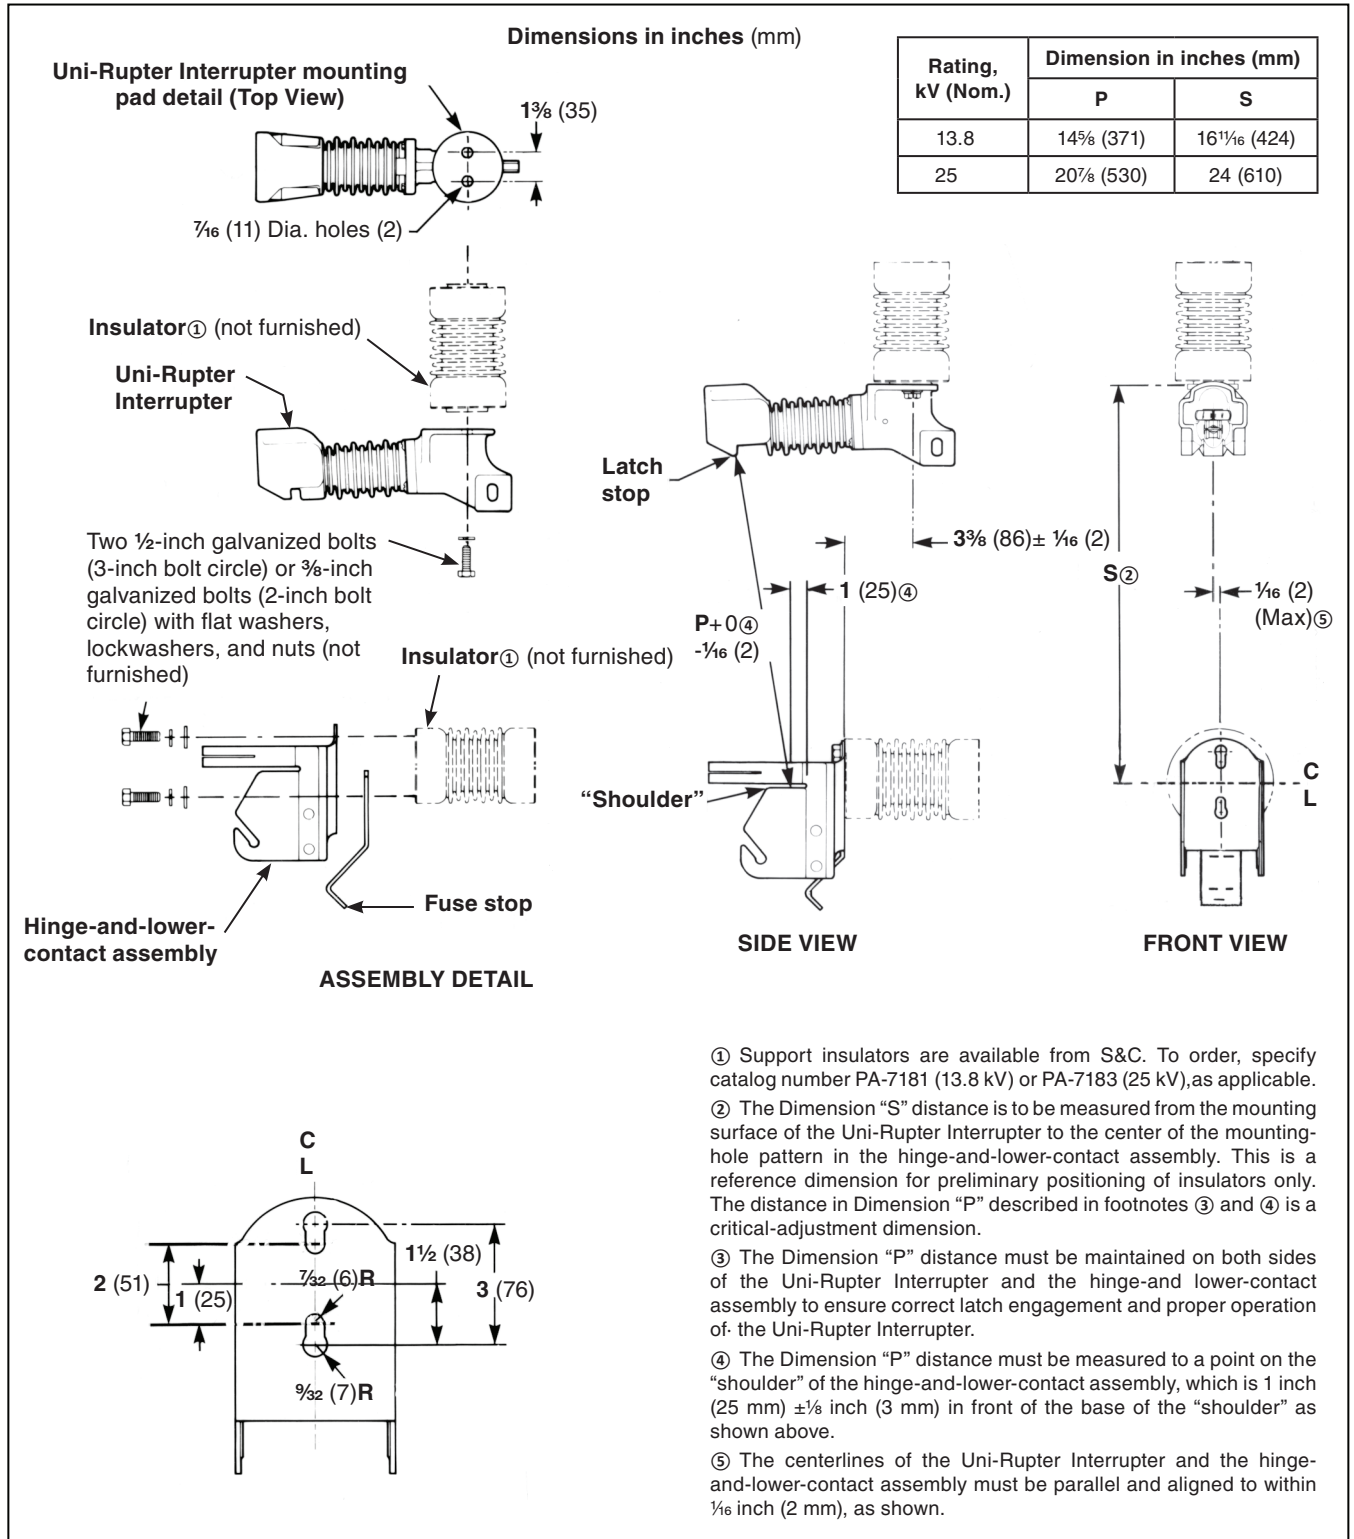
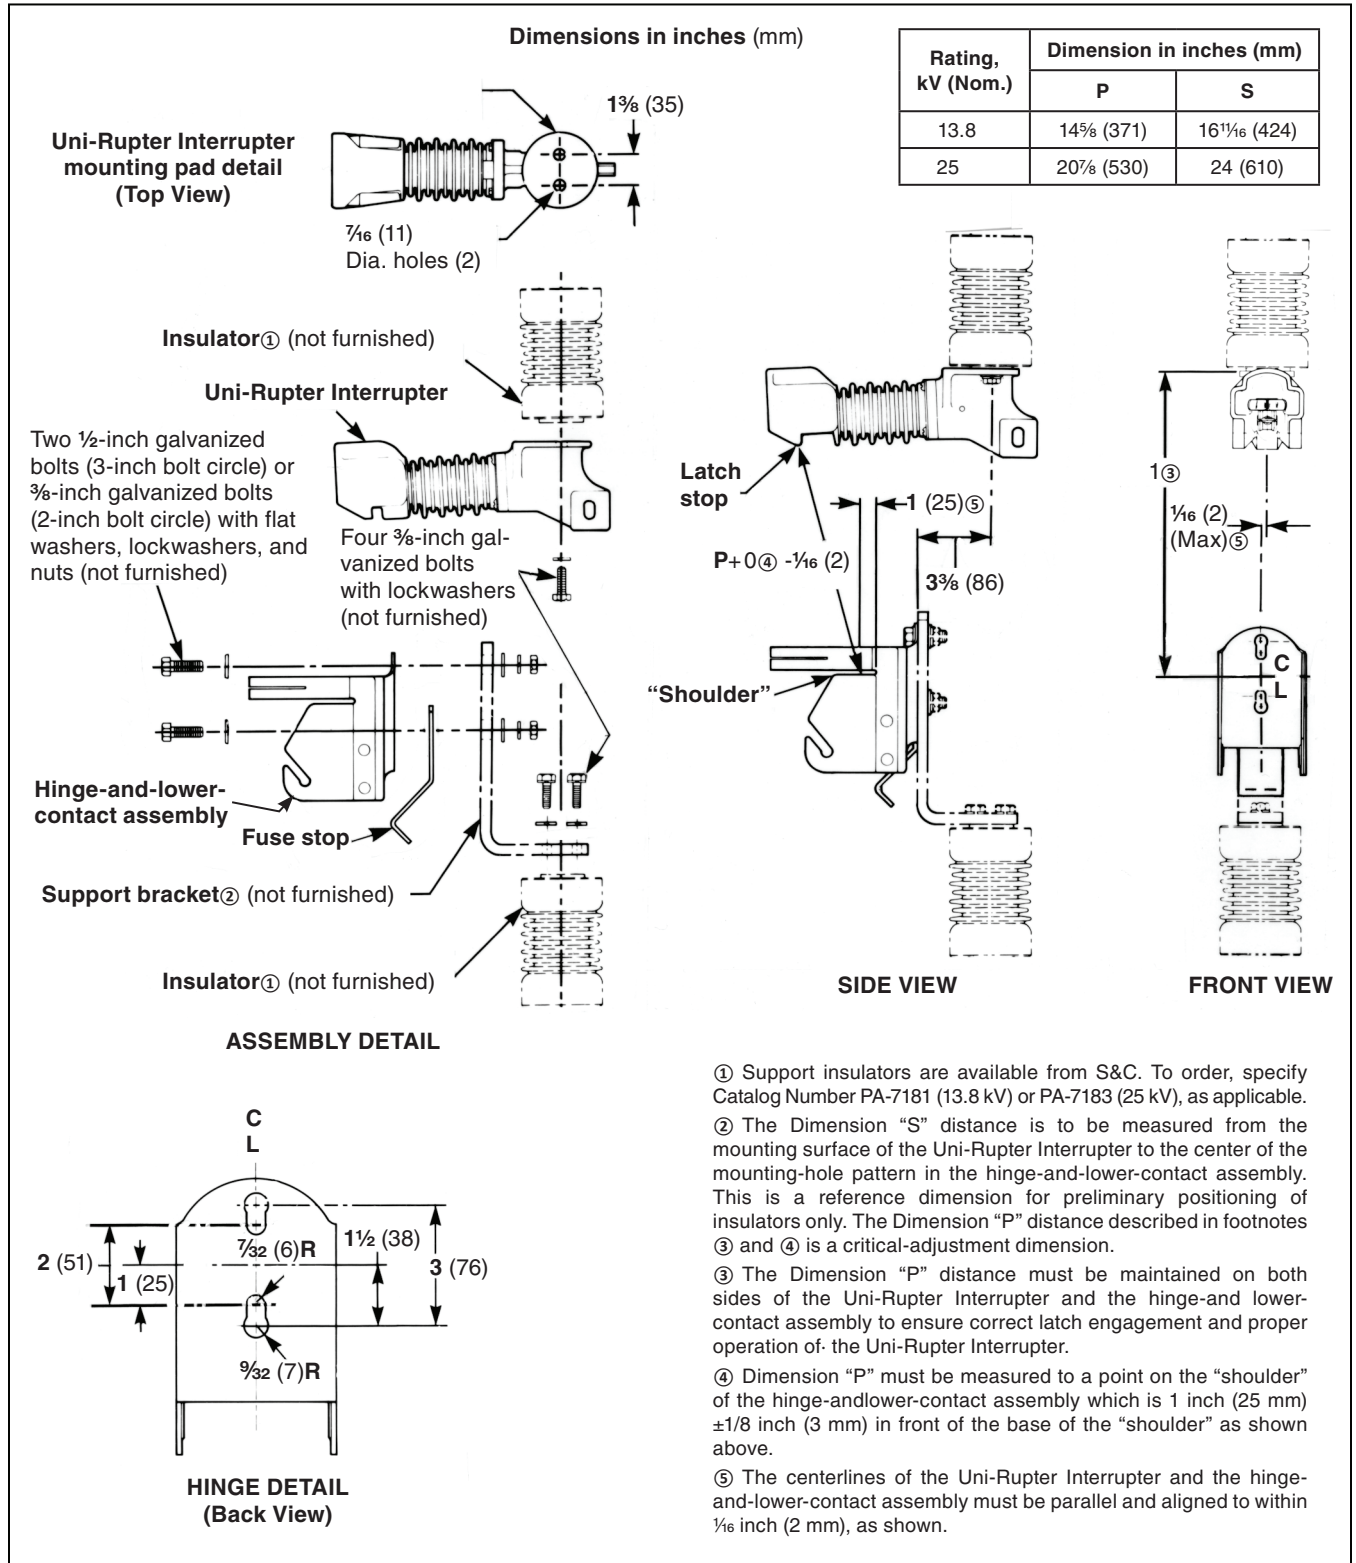

Figure 1. Mounting configuration using the back-supported hinge-and-lower-contact assembly.
Figure 3. Mounting configuration using the bottom-supported hinge-and-lower-contact assembly.
The live parts described in this section can be mounted as shown in Figure 1 on page 9 or Figure 3 on page 11. Installation instructions for the mounting configuration illustrated in Figure 1 are provided below. Installation instructions for the mounting configuration illustrated in Figure 3 are found beginning on page 10.
STEP 1. Install insulators (not included with live parts) in the locations shown in Figure 1 on page 9, with the mounting bolts snug but loose enough to permit later adjustments.
STEP 2. Attach the Uni-Rupter Interrupter to the upper insulator as shown in Figure 1 on page 9, using
STEP 3. Attach the hinge-and-lower-contact assembly (including the fuse stop) to a 2-inch bolt-circle insulator, as shown in Figure 1 on page 9, using two $\frac{3}{8}$ -inch galvanized bolts with lockwashers and flat washers (not furnished). Fully tighten the hinge-and-lower-contact assembly mounting bolts.
Note: The hinge-and-lower-contact assembly can also be mounted directly on a 3-inch bolt-circle insulator using $\frac{1}{2}$ -inch galvanized bolts with lockwashers and flat washers (see the Hinge Detail in Figure 1 on page 9).
STEP 4. Make sure the centerline of the Uni-Rupter Interrupter and the centerline of the hinge-and-lower-contact assembly are parallel and aligned to within $\frac{1}{16}$ inch (2 mm), as shown in Figure 1 (Front View) on page 9. Move the upper insulator (with the Uni-Rupter Interrupter attached) from side to side as required to obtain proper alignment. Then, fully tighten both upper-insulator mounting bolts.
STEP 5. Accurately measure the distance from the lower edge of the latch stop on the Uni-Rupter Interrupter to the “shoulder” on the hinge-and-lower-contact assembly (Dimension “P”), as shown in Figure 3 on page 11. Move the hinge-and-lower-contact assembly toward or away from the Uni-Rupter Interrupter as required to bring this distance within the specified Dimension “P” tolerance. Make sure the Dimension “P” distance is maintained on *both* sides of the Uni-Rupter Interrupter and the hinge-and-lower-contact assembly, and that the Uni-Rupter Interrupter and the hinge-and-lower-contact assembly are still properly aligned, as described in Step 4 on page 8. Then, fully tighten both hinge-and-lower-contact assembly mounting bolts.
STEP 1. Install insulators (not included with live parts) in the locations shown in Figure 3 on page 11, with the upper-insulator mounting blots snug but loose enough to permit later adjustments. Fully tighten the mounting bolts securing the lower insulator to the structure.
STEP 2. Attach the Uni-Rupter Interrupter to the upper insulator as shown in Figure 3 on page 11 using two 3/8-inch galvanized bolts with lockwashers (not furnished). Fully tighten both of the Uni-Rupter Interrupter mounting bolts.
STEP 3. Attach a hinge-and-lower-contact assembly support bracket (not furnished) to the lower insulator using two 3/8-inch galvanized bolts with lockwashers, as shown in Figure 3 on page 11. Fully tighten the mounting bolts securing the support bracket to its insulator.
STEP 4. Attach the hinge-and-lower-contact assembly (including the fuse stop) to the support bracket as shown in Figure 3 on page 11, using two ½-inch galvanized bolts with flat washers, lockwashers, and nuts (not furnished). The mounting bolts securing the hinge-and-lower-contact assembly to the support bracket should be snug but loose enough to permit later adjustments.
STEP 5. Make sure the center line of the Uni-Rupter Interrupter and the center line of the hinge-and-lower-contact assembly are parallel and aligned to within ⅛ inch (2 mm), as shown in Figure 3 (Front View) on page 11. Move the *upper* insulator (with the Uni-Rupter Interrupter attached) from side to side as required to obtain proper alignment. Then, fully tighten both upper-insulator mounting bolts.
STEP 6. Accurately measure the distance from the lower edge of the latch stop on the Uni-Rupter Interrupter to the “shoulder” on the hinge-and-lower-contact assembly, as shown in Figure 3 on page 11. Move the hinge-and-lower-contact assembly toward or away from Uni-Rupter Interrupter as required to bring this distance within the specified Dimension “P” tolerance noted in Figure 3. Make sure the Dimension “P” distance is maintained on *both* sides of Uni-Rupter Interrupter and the hinge-and-lower-contact assembly and Uni-Rupter Interrupter and the hinge-and-lower-contact assembly are still properly aligned, as described in Step 5. Then, fully tighten both hinge-and-lower-contact assembly mounting bolts.